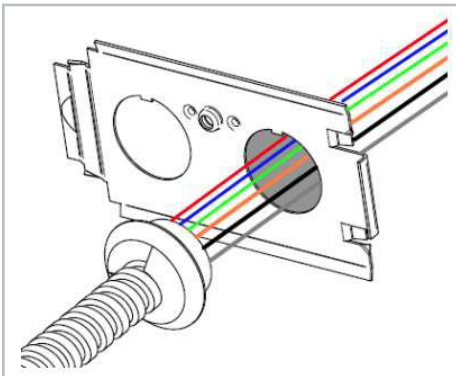

Figure 5: Flexwhip
8. Attach Flexwhip to Access Plate on the Satellite fixture with a snap-in connector. Reinstall the access plate. See **Figure 5**.
11. Attach Flexwhip to Access Plate on the Satellite fixture with a snap-in connector. Reinstall the access plate. See *Figure 5*.
8. Attach Flexwhip to Access Plate on the Satellite fixture with a snap-in connector. Reinstall the access plate. See *Figure 5*.